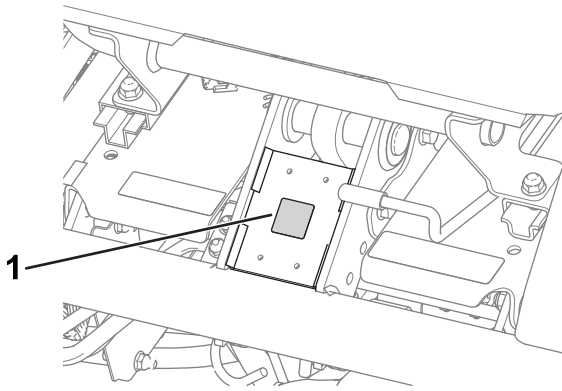

Figure 14
- Apply the CE mark decal to the frame under the front of the seat (Figure 14).